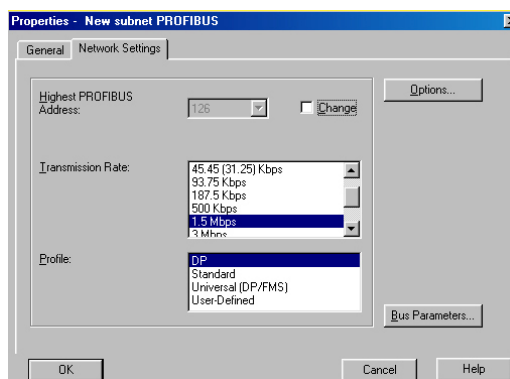

Figure 6-9 Selection of Baud Rate
15. Click the “Network Settings” tab and select the appropriate Baud rate (see Figure 6-9).